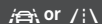

Fig. 269 On the windscreen: field of vision of the Lane Assist system.
- Regularly clean the area of vision of the camera and keep it in a clean state, without snow or ice »» Fig. 269.